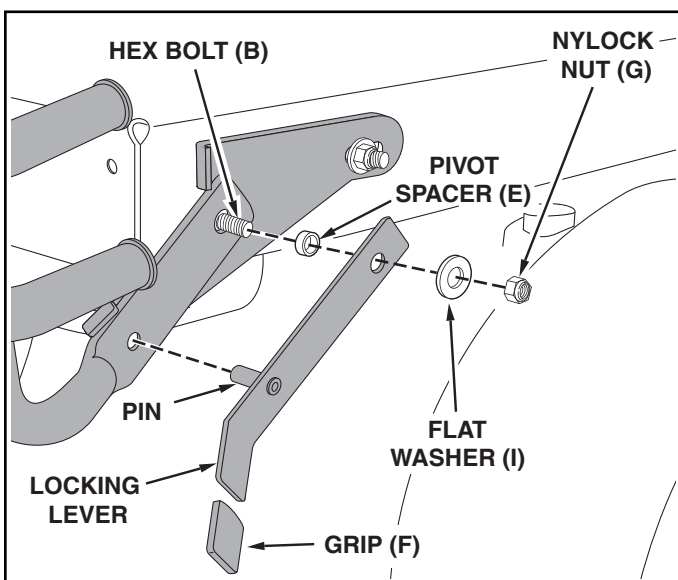

FIGURE 5
STEP 4: (SEE FIGURE 5)
- Fasten bumper to mounting bracket using a hex bolt (B), pivot spacer (E), a locking lever, a flat washer (I) and a nylock nut (G) as shown. The pivot spacer inserts into hole in bumper. **Tighten both nuts** on mounting bracket at this time. Repeat for other side.
- Assemble plastic grips (F) onto locking levers.